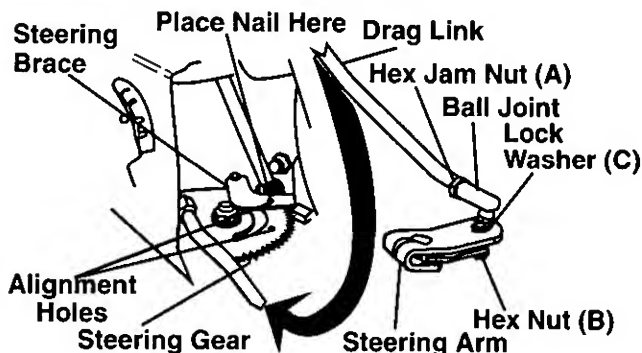

FIGURE 18.
4. Loosen the hex nut on the scissor mounting bracket. See figure 18.
If the tractor turns tighter in one direction compared to the other, the steering drag link must be adjusted. To adjust the drag link follow these steps. Refer to figure 18.
Lubricate teeth of steering gears with automotive multi-purpose grease after every 25 hours of operation or once a season. Refer to figure 18.